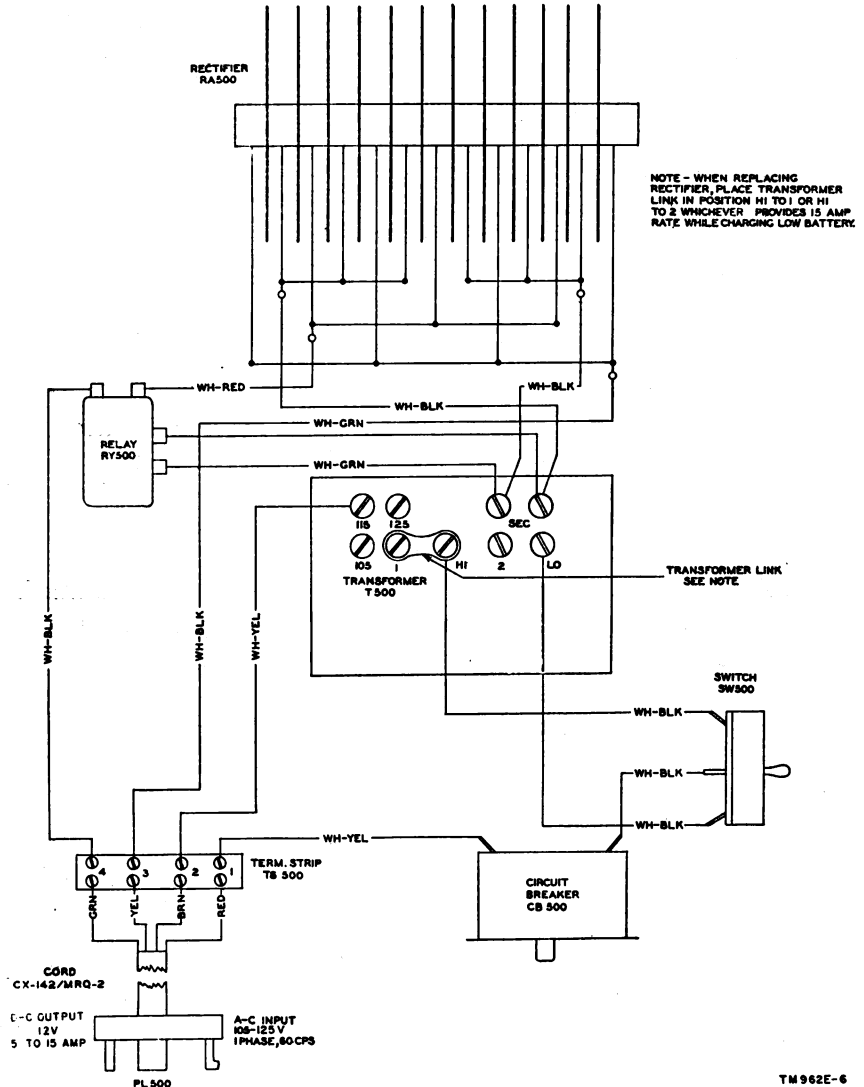

Figure 10. Rectifier RA-63-E, practical wiring diagram (Hallcraft).
a. All of the parts in Rectifier RA-63-E are readily accessible and are easily replaced if found to be faulty. If any of the parts need to be replaced, mark the wires with tags or other devices to avoid misconnection when the new part is installed (figs. 10 and 11).